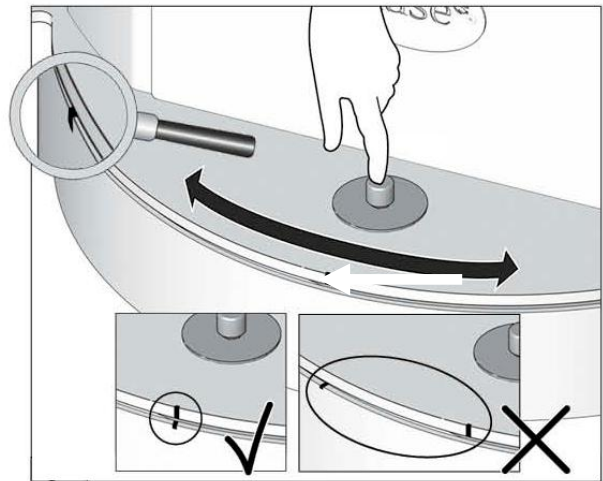

Figure 3 - Zero Index Marks
2. Ensure the stove is in its 0-degree orientation (line up the index marks)(see fig. 3), and then position the stove to center the door on the hearth.